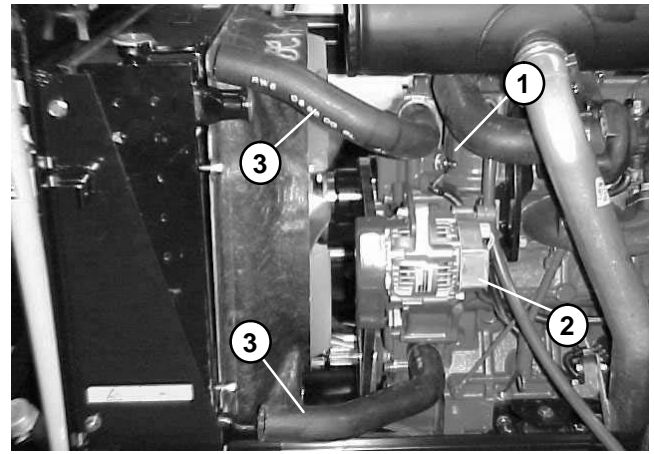

Figure 11
- A. The temperature sender and alternator (Fig 11). Note: red wire attached to alternator with washer, nut, and boot does not have to be removed.
- A. The temperature sender and alternator (Fig 11).